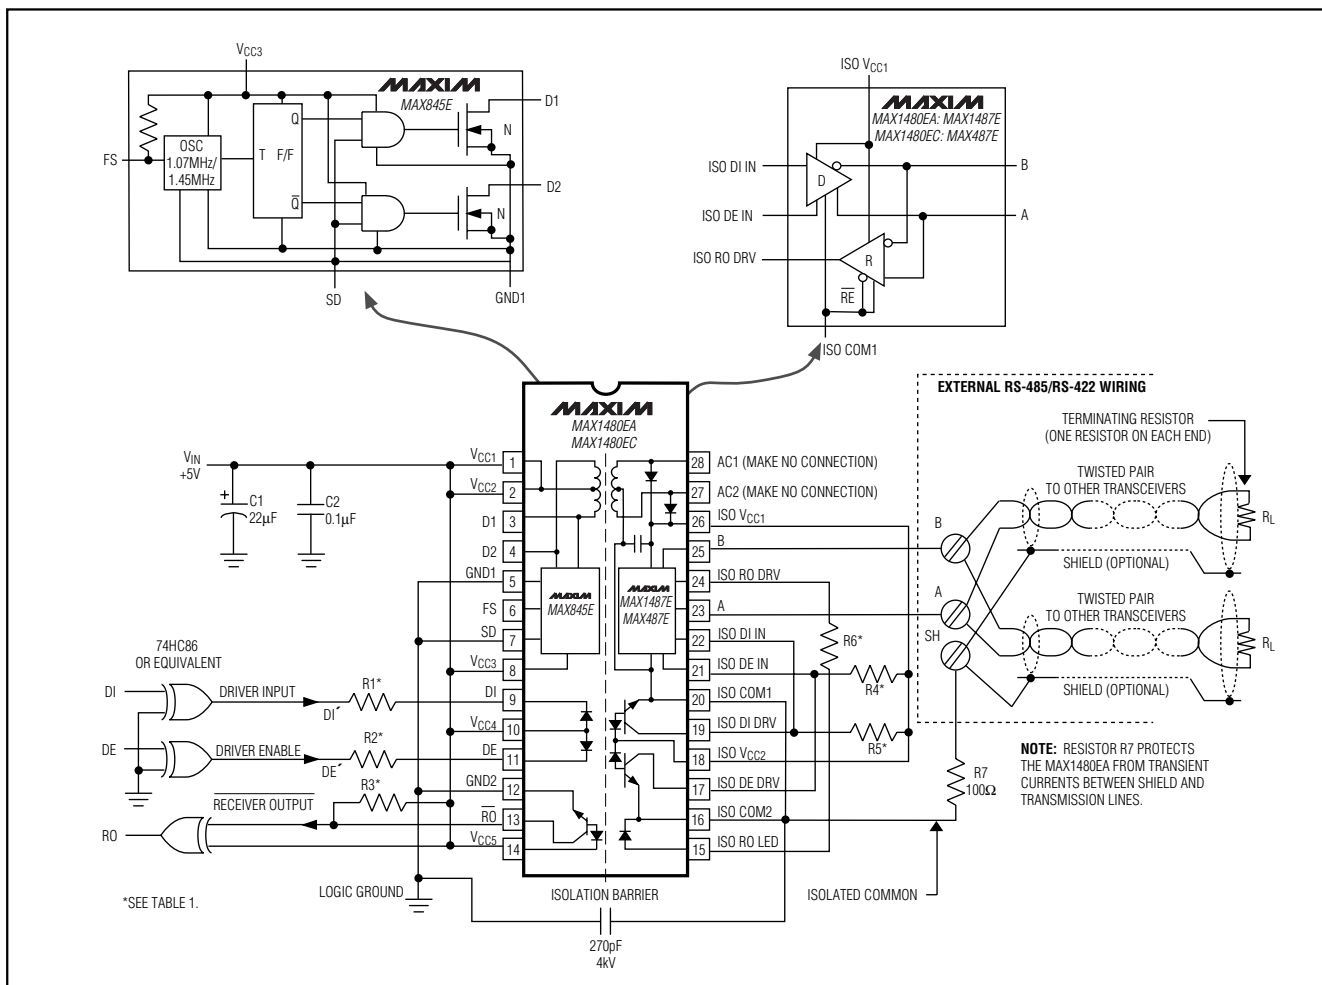
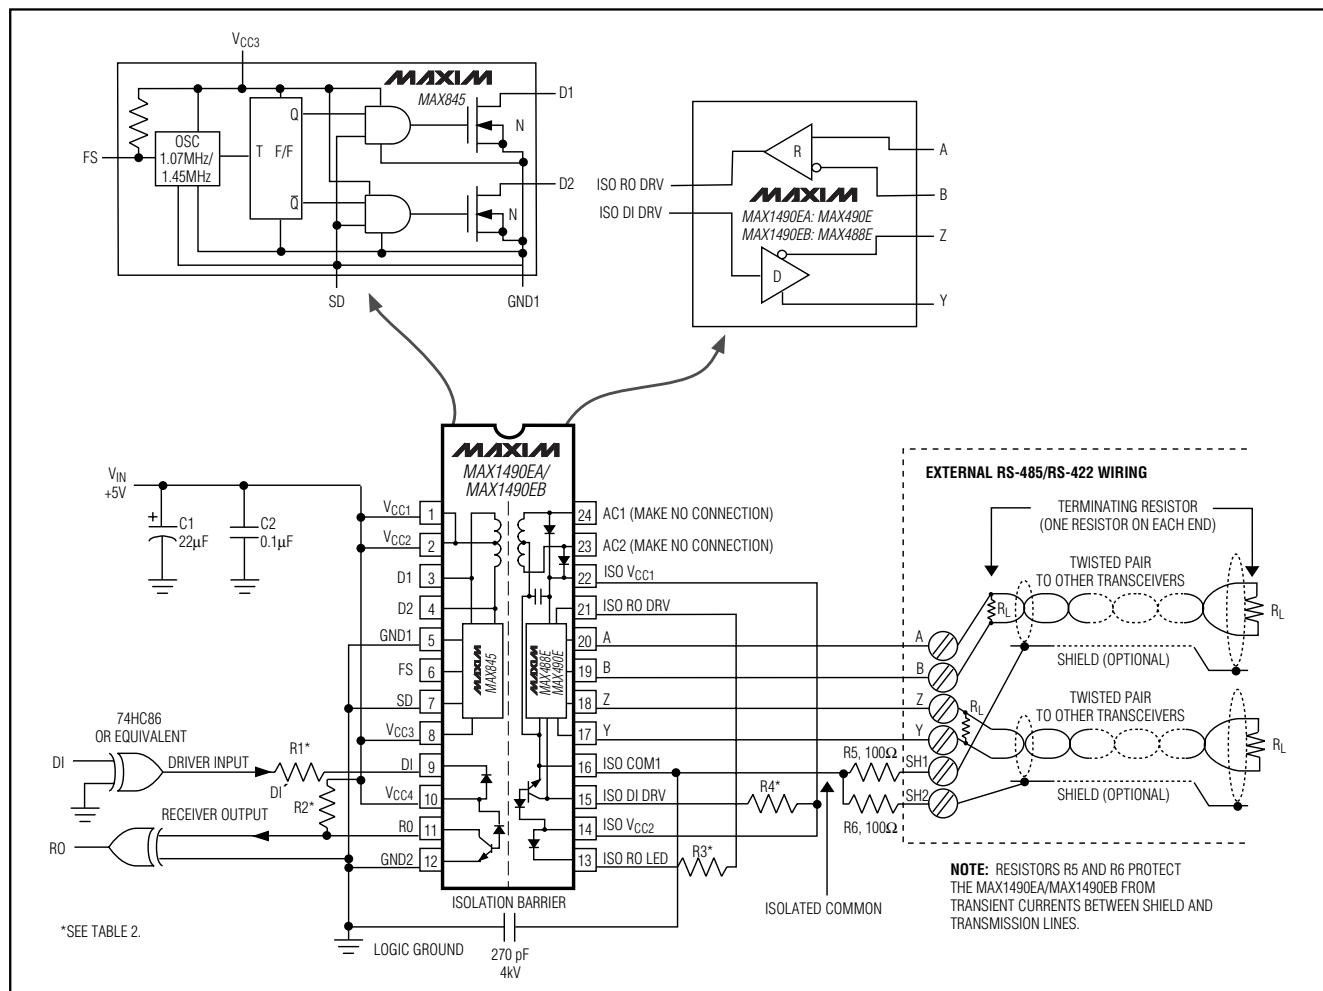

Figure 1. MAX1480EA/MAX1480EC Detailed Block Diagram and Application Circuit
Figure 2. MAX1490EA/MAX1490EB Detailed Block Diagram and Typical Application Circuit
Note 2: For DE⁺ and DI⁺ pin descriptions, see *Detailed Block Diagram and Typical Application Circuit* (Figure 1 for MAX1480EA/MAX1480EC, Figure 2 for MAX1490EA/MAX1490EB).
($V_{CC-} = +5\text{V}$, $V_{FS} = V_{CC-}$, Figures 1 and 2, $T_A = +25^\circ\text{C}$, unless otherwise noted.)
($V_{CC-} = +5V$, $V_{FS} = V_{CC-}$, Figures 1 and 2, $T_A = +25^\circ C$, unless otherwise noted.)
($V_{CC-} = +5V$, $V_{FS} = V_{CC-}$, $V_{DI} = 0$, DE toggled 0 to 5V at 5kHz, Figures 1 and 2, $T_A = +25^{\circ}C$, unless otherwise noted.)
Note: For DE⁺ and DI⁺ pin descriptions, see Detailed Block Diagram and Typical Application Circuit (Figure 1 for MAX1480EA/MAX1480EC, Figure 2 for MAX1490EA/MAX1490EB).
The MAX1480EA/MAX1480EC/MAX1490EA/MAX1490EB are complete, electrically isolated, RS-485/RS-422 data-communications interface solutions. Transceivers, optocouplers, a power driver, and a transformer in one standard 28-pin DIP package (24-pin package for the MAX1490EA/MAX1490EB) provide a complete interface. Signals and power are internally transported across the isolation barrier (Figures 1, 2). Power is transferred from the logic side (nonisolated side) to the isolated side of the barrier through a center-tapped transformer. Signals cross the barrier through high-speed optocouplers. A single +5V supply on the logic side powers both sides of the interface. The MAX1480EA/MAX1480EC offer half-duplex communications while the MAX1490EA/MAX1490EB feature full-duplex communication. The functional input/output relationships are shown in Tables 3 through 6.
Table 1. Pullup and LED Drive Resistors for Figure 1
Table 2. Pullup and LED Drive Resistors for Figure 2
* For DE[′] and DI[′] pin descriptions, see Detailed Block Diagram and Typical Application Circuit (Figure 1 for MAX1480EA/MAX1480EC, Figure 2 for MAX1490EA/MAX1490EB).
The ±15kV ESD test specifications apply only to the A, B, Y, and Z I/O pins. The test surge may be referenced to either the ISO COM or to the nonisolated GND (Figures 1 and 2).